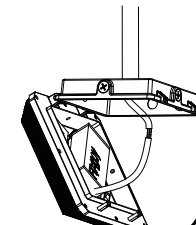

FIGURE 1-6
6. Turn the radiator up then cover the driver box (Figure 1-6)